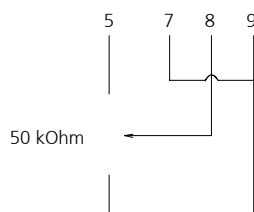

figure 23
2. Connect the potentiometer of 50 kΩ with the controller (see figure 23).